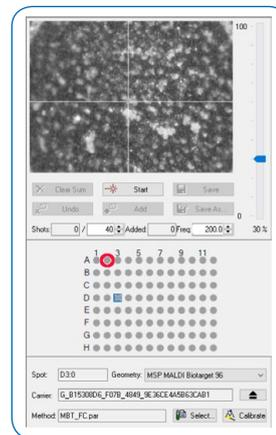

Figure 4.12 Selecting the BTS spot (e.g. A2) and the Calibrate button
- Select the spot with BTS (see Figure 4.12)
- Click on “Calibrate” (see Figure 4.12)